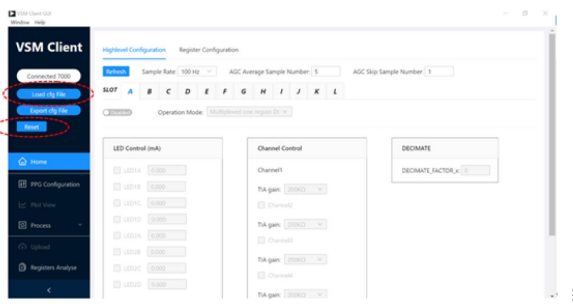
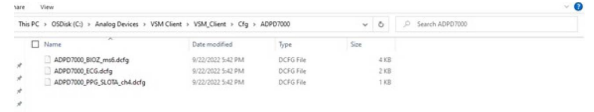

Figure 25. Configuration Interface
Figure 27. Configuration File Folder
1. Click **Load cfg File** in the configuration interface of the VSM Client to load a basic configuration file (see Figure 25). To export the current configuration file, click **Export cfg File** to save the script in the configuration file folder (see Figure 27). To change the loaded .dcfg file, click **Reset** before continuing.
The configuration files in the configuration file folder may differ from those shown in Figure 27.